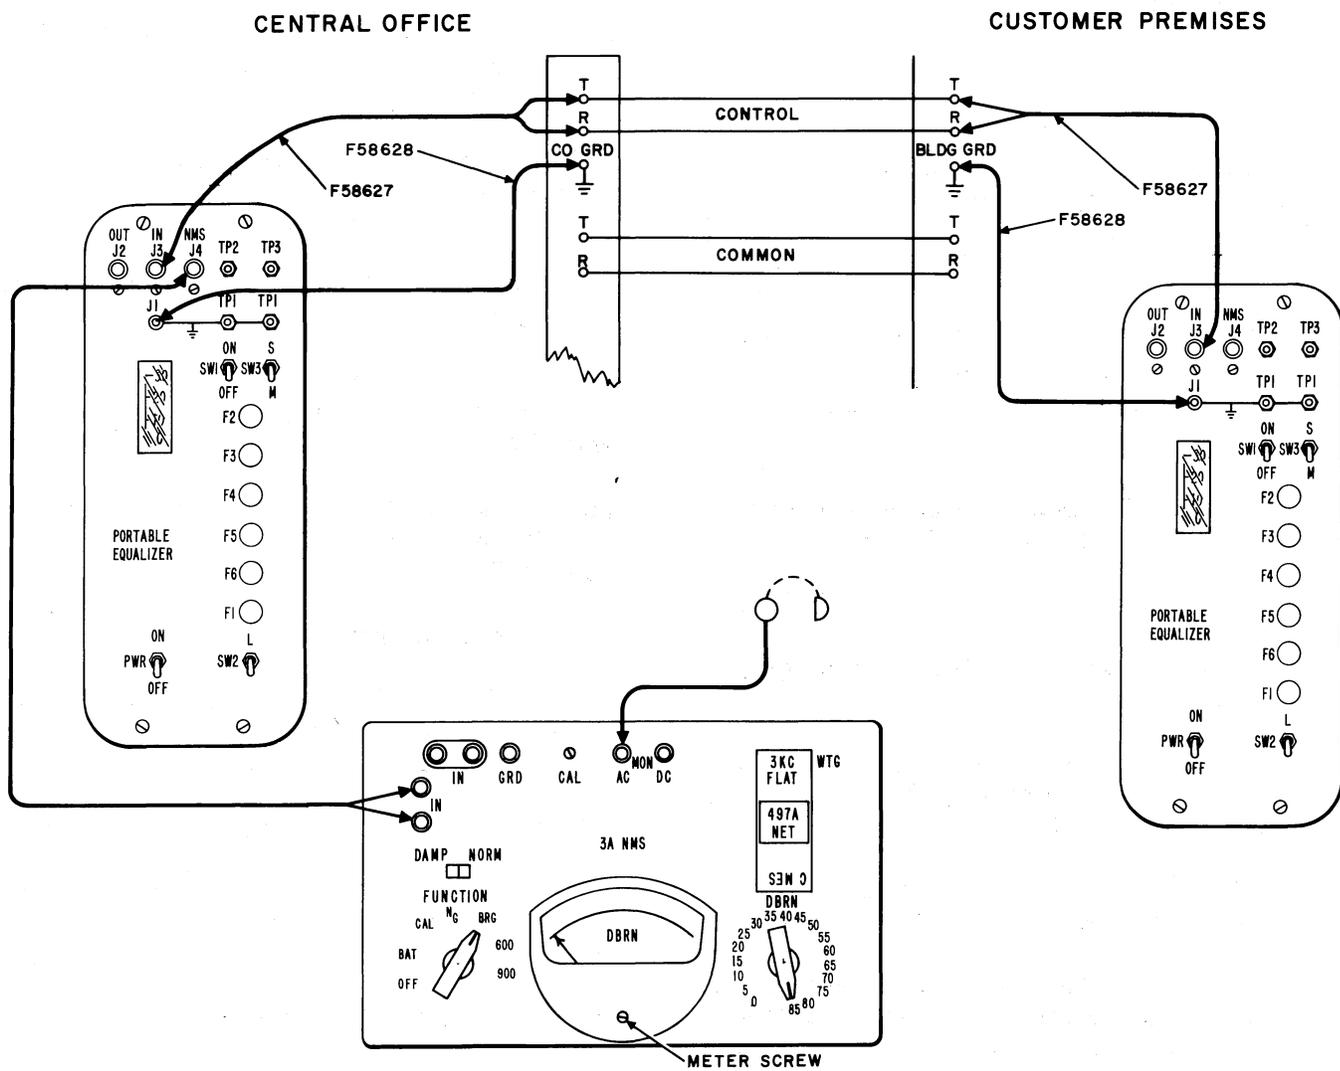

Fig. 11—Low Frequency Noise Test
4.04 At customer end using F-58635 Portable Equalizer (PE) (Fig. 11):